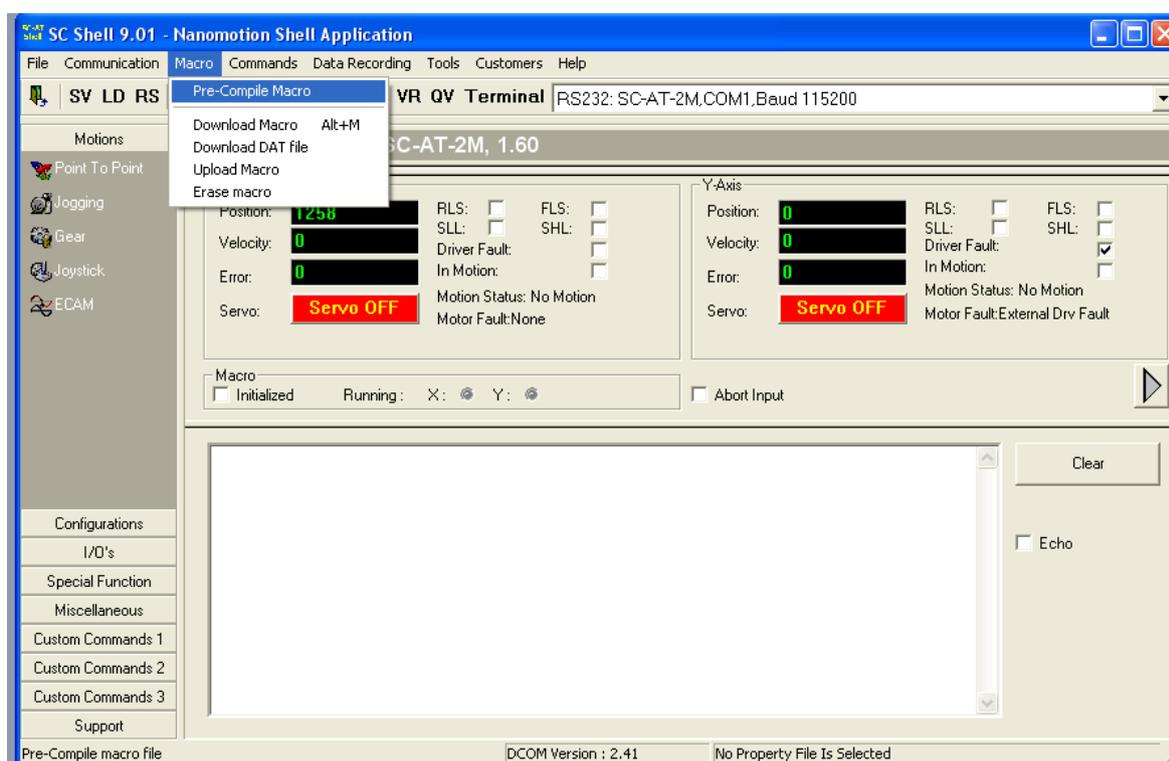

Figure 20: Macro Installation
1. On the "Macro" menu of the Nanomotion Shell Application, click "Download Macro" (see Figure 20):